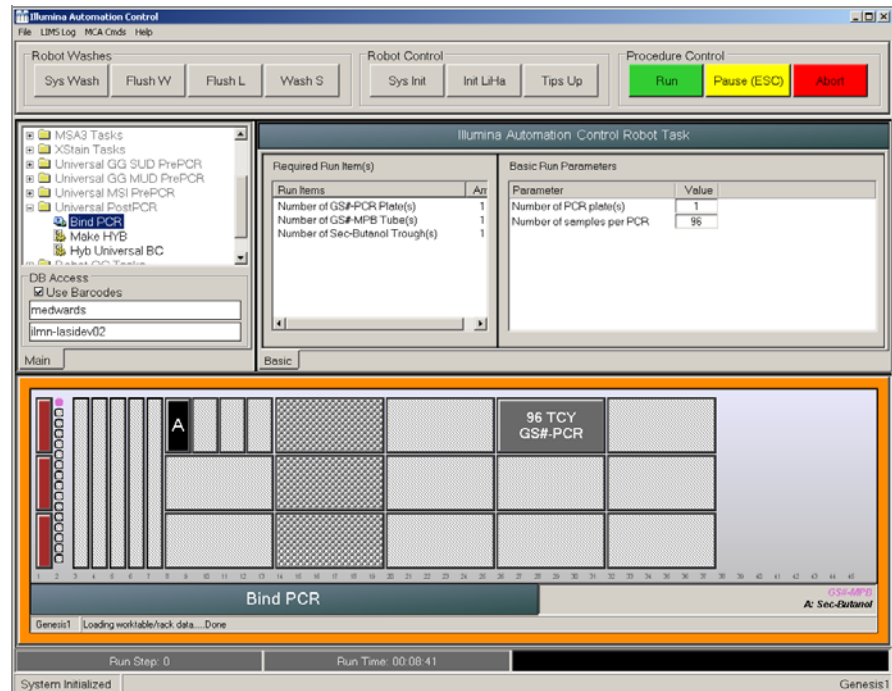

Figure 42 Universal PostPCR | Bind PCR
1. From the robot PC, select **Universal PostPCR | Bind PCR** (Figure 42).